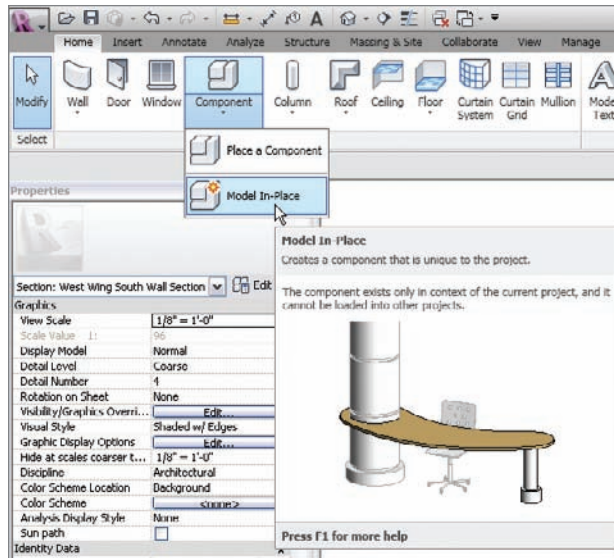

FIGURE 17.29 Starting an In-Place family
3. On the Home tab, click Component > Model In-Place, as shown in Figure 17.29.